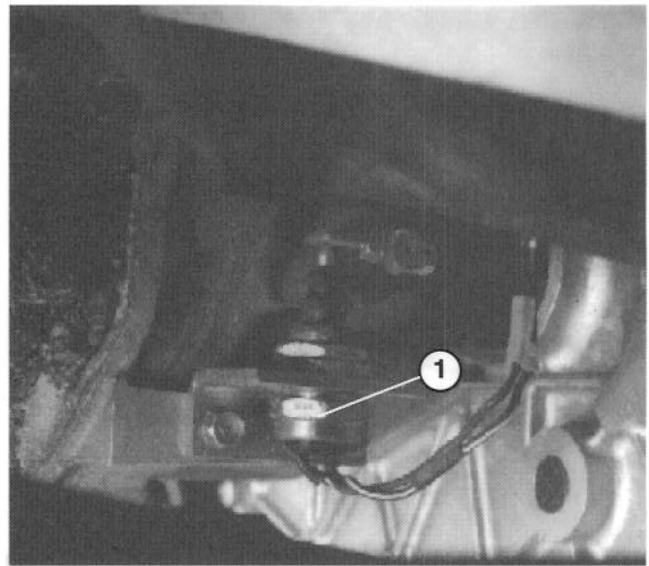

Figure 43
7. Recheck clutch safety switch adjustment (Fig. 43). Engine must not crank unless clutch pedal is $.90" \pm .12"$ from floor. If an adjustment is required, loosen switch jam nuts and adjust up or down.